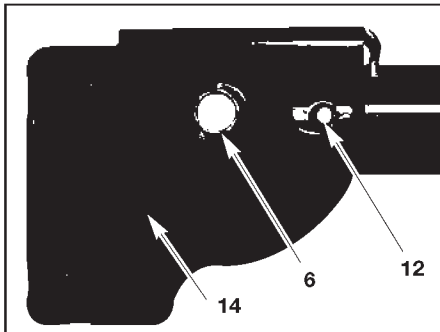

Figure 11
17. Depress snap button (12), slide into handle bracket (14), and release through first slot in handle bracket as shown in Figure 11. Secure handle to handle bracket with screw (6) and locknut (7).